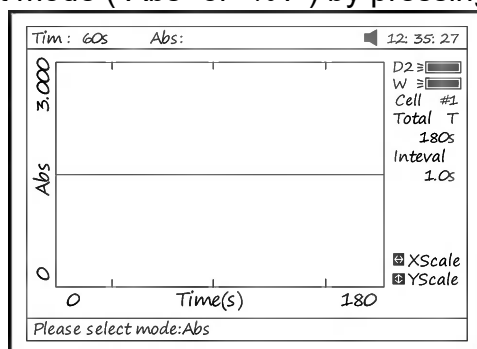

Fig 55
2. Select the test mode (“Abs” or “%T”) by pressing **【F2】** (Fig 55).